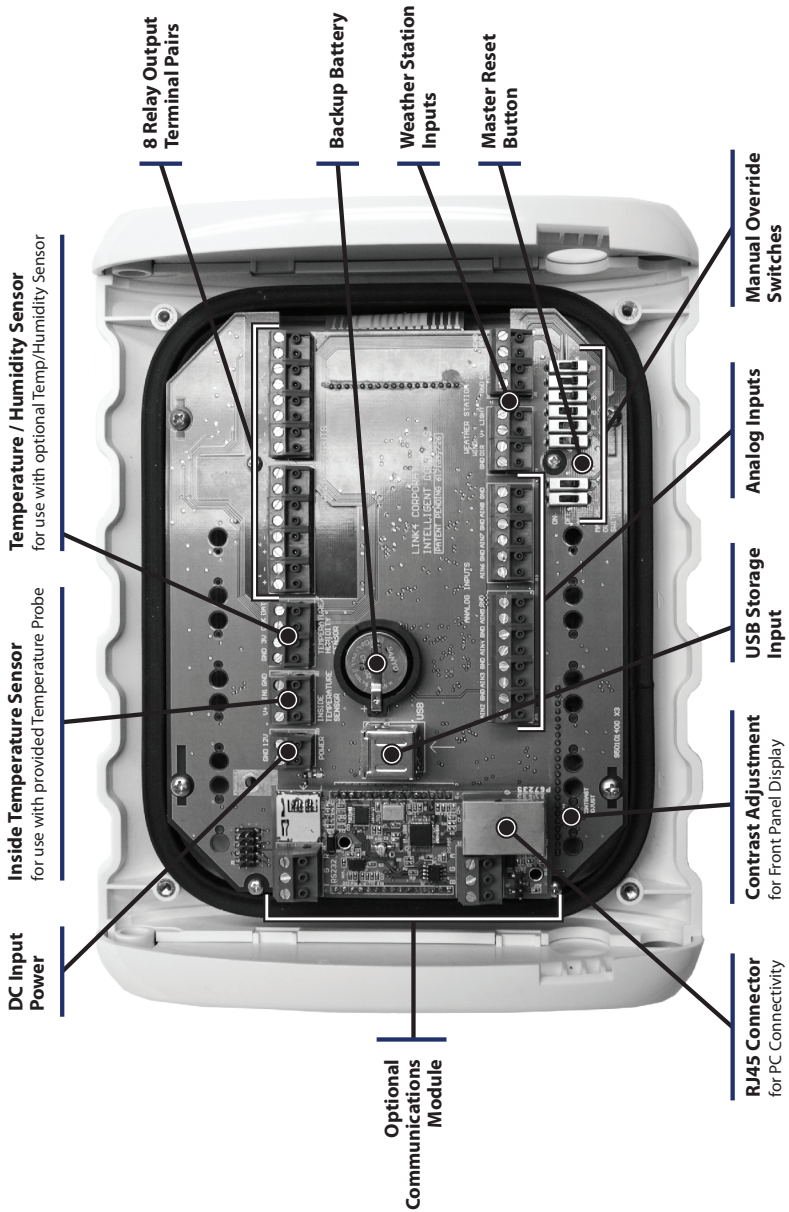
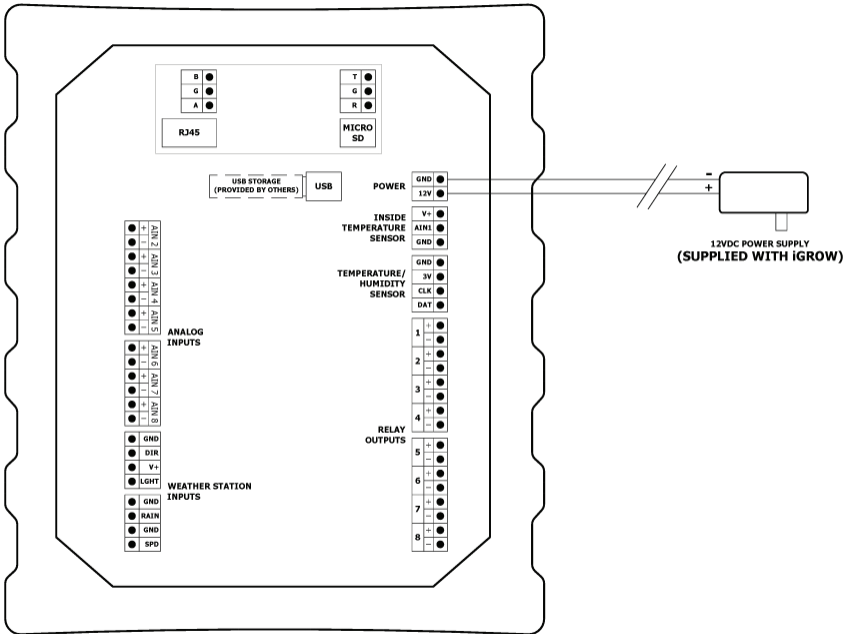

Figure 2.4 Internal Layout of the iGrow Series 100™ PCB
Figure 3.1 Wiring the Power Supply
Figure 2.4 shows how the iGrow Series 100™ looks on the inside. Take notice of the board and familiarize yourself with the internal layout before beginning the wiring process.
5. Locate the DC Input Power terminal on the PCB. See Figure 2.4 and Figure 3.1.